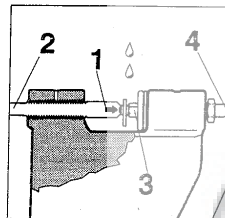

fig. 3
- 2- Position the cutter (fig.4) or the tie strap (fig.3) with the rivet head in the center of the lever notch (fig.3).
- 3- Turn take-up handle into press rivet (1) against the anvil head (3).
- 4- Turn the spinner crank (4) a few times in order to center the rivet on the anvil head (3).